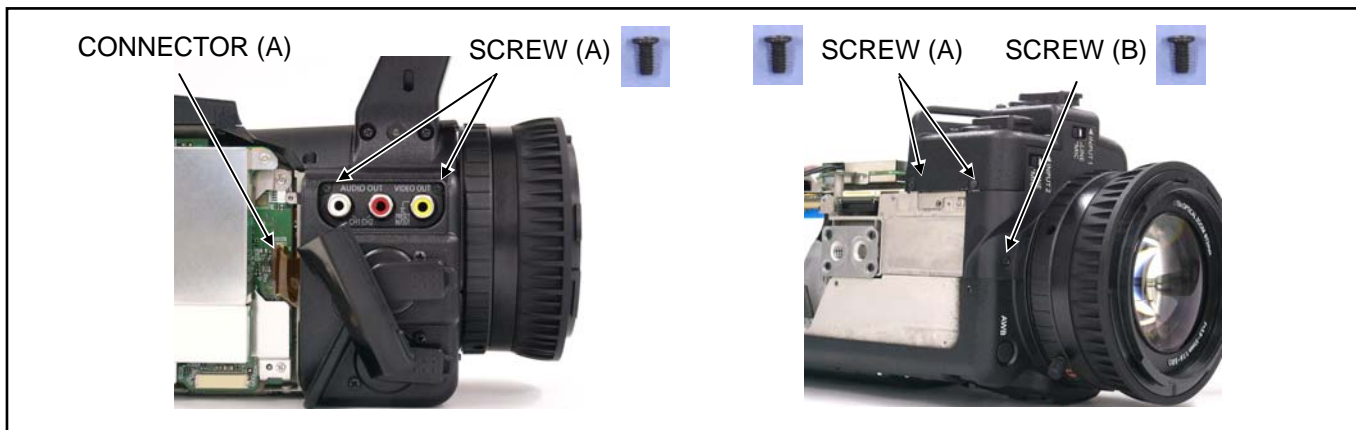

Figure 6-1
2. Disconnect a connector (A) as shown in figure 6-1.
3. Unscrew the 4 screws (A) and a screw (B) and remove the Side Jack Ass'y as shown in figure 6-1.